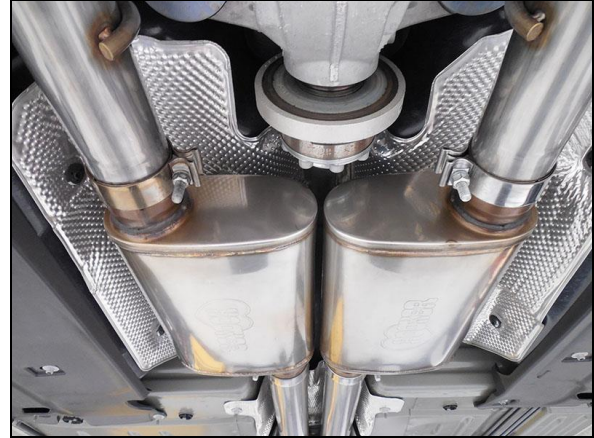

Figure 8
6. Install a supplied 3" band clamp over each muffler or muffler delete outlet tube (bolt inside and nut down). See **Figure 8**.